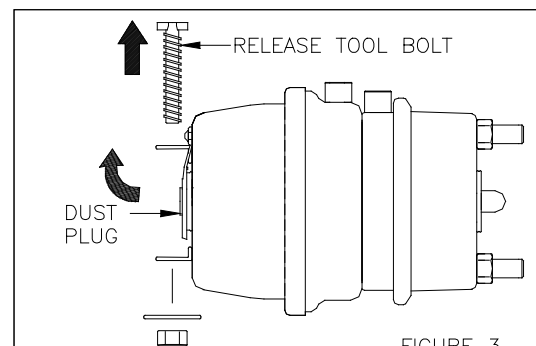

FIGURE 3
1. Remove the dust plug from the release tool access hole in the center of the spring housing. (Figure 3.)
2. Remove the release tool bolt, washer and nut from its holder. (Figure 3.)